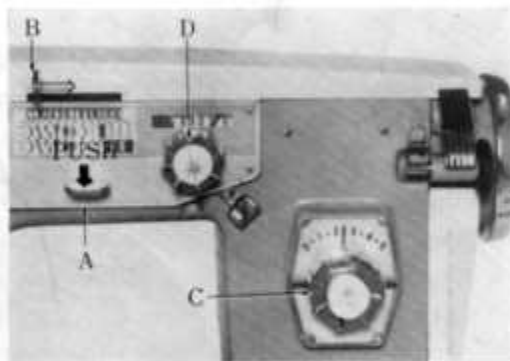

Fig. 24
(a) Push down the pattern selector lever (A) Fig. 24 with thumb of right hand and while keeping it there move the lever (B) to the left side as far as it will go. Then release both levers (A & B).